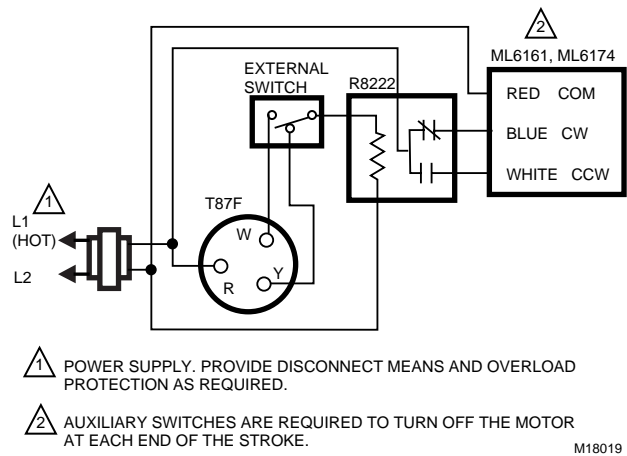

Fig. 10. ML6161 or ML6174 used with T87F in heating-only or cooling-only application.
All wiring must comply with local electrical codes, ordinances and regulations. Voltage and frequency of the transformer used with the actuator must correspond with the characteristics of both the power supply and the actuator. Screw terminals are provided for easy hookup. See Fig. 10 through 13 for typical wiring hookups.
4. Run the connecting wire through the conduit connector, strip the wire ends (if necessary) and connect to the CW, COM and CCW terminals using Fig. 10 through 13, Fig. 15 through 19, or the control manufacturer instructions.